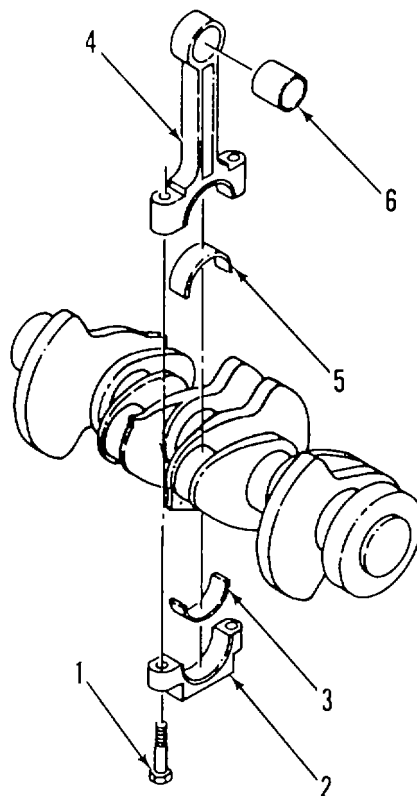
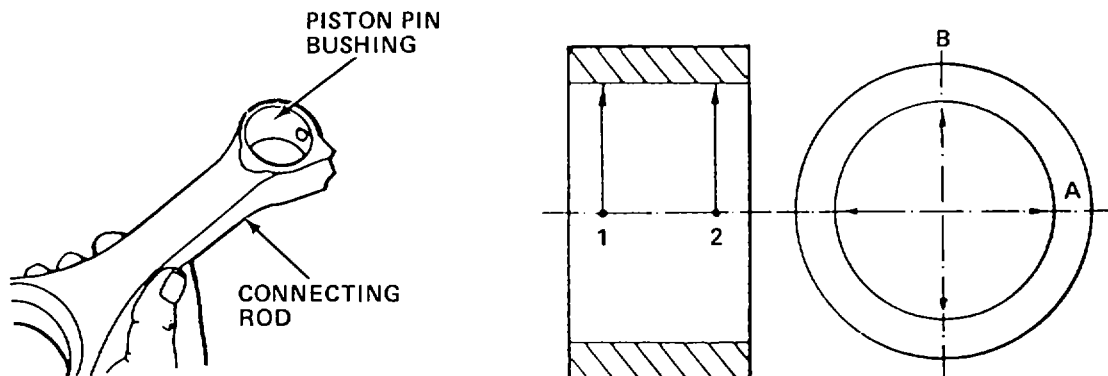

Figure 4-11. Connecting Rods
Figure 4-12. Connecting Rod Measurements
a. REMOVE. (Figure 4-11)
- (1) Remove connecting rod capscrews (1).
- (1) Check connecting rod for straightness and visible damage. Replace defective connecting rod.
- (2) Using micrometer, measure inside diameter of piston pin bushing at points 1 and 2 in the planes of a and b. Correct measurement is 1.577-1.579 in. (40.040-40.084 mm).
- (3) Remove any worn bushing (6, Figure 4-11) and press in new bushing. Make sure oil holes are aligned.
- (4) Install rod cap (2) on connecting rod (4).
- (5) Install connecting rod capscrews (1). Torque screws to 22 ft • lbs (29.8 N•m).
- (6) Using angle-of-turn indicator, tighten rod capscrews 30°, then 60°.
- (7) Using micrometer, measure inside diameter of connecting rod bearing bore at points 1 and 2 in the planes of a and b (Figure 4-12). Correct measurement is 2.6792-2.6799 in. (68.0-68.019 mm).
- (8) Replace a defective connecting rod.
- (9) Remove connecting rod capscrews and cap.
- (10) Check connecting rod bearing clearance as follows:
- (b) Install bearing shell (5, Figure 4-11) in bore of connecting rod (4).
- (c) Install bearing shell (5) in rod cap (2).
- (d) Install rod cap (2) on connecting rod (4) with capscrews (1).
- (h) Replace bearing shells (5) or crankshaft if correct clearance (0.0059 in. (0.15 mm)) is not obtained.
- (i) Remove connecting rod capscrews (1) and rod cap (2). Remove bearing shells (5).
c. **INSTALL.** (Figure 4-11)
- (1) Install new bearing shell half (5) in bore of connecting rod (4).
- (2) Lightly coat bearing shell (5) and crankshaft journal with oil.
- (3) Install connecting rod (4) on crankshaft journal.
- (4) Lightly coat crankshaft journal and other bearing shell half (3) with oil.
- (5) Insert bearing shell (3) half in rod cap (2).
- (6) Install rod cap (2) with new rod capscrews (1) on connecting rod (4).
- (7) Torque rod capscrews to 2.216 ft. lbs (5.629 Nom).
- (8) Using angle-of-turn indicator, tighten rod capscrews (1) 30°.
- (9) Tighten rod capscrews (1) 60°.